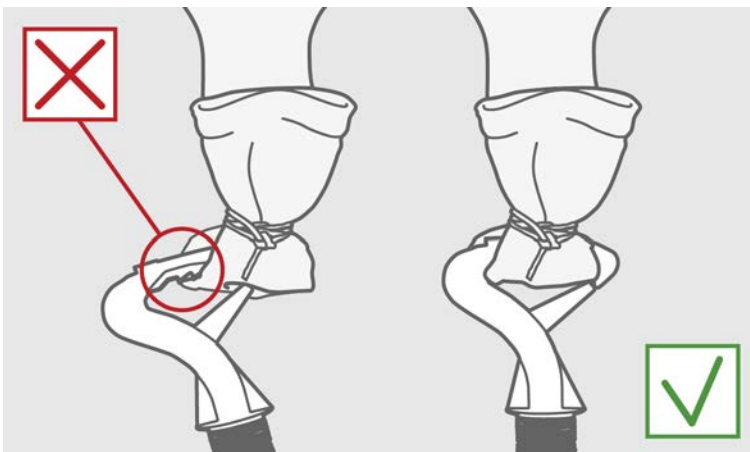

Figure 5 Unwinder Clip Is Level with the Unwinder Bottom Plate
2. If the clip is bent up, bend it gently back to level position as shown in Figure 5 (page 24).